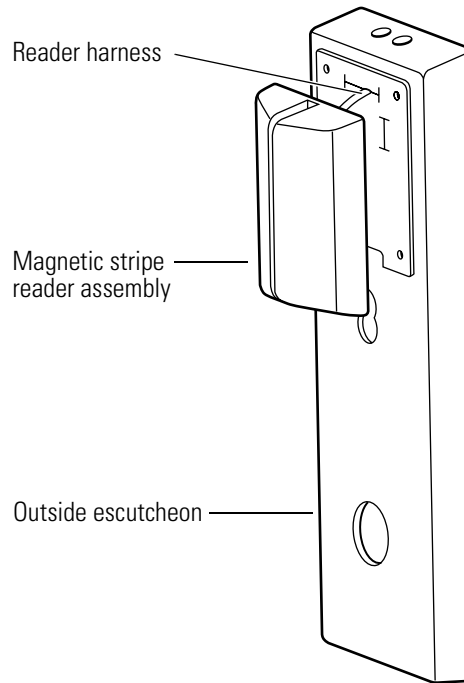

Figure 9.15 Removing the magnetic stripe reader assembly from the outside escutcheon
3. Remove the magnetic stripe reader assembly from the outside escutcheon, sliding the reader harness through the slot in the escutcheon. See Figure 9.15.